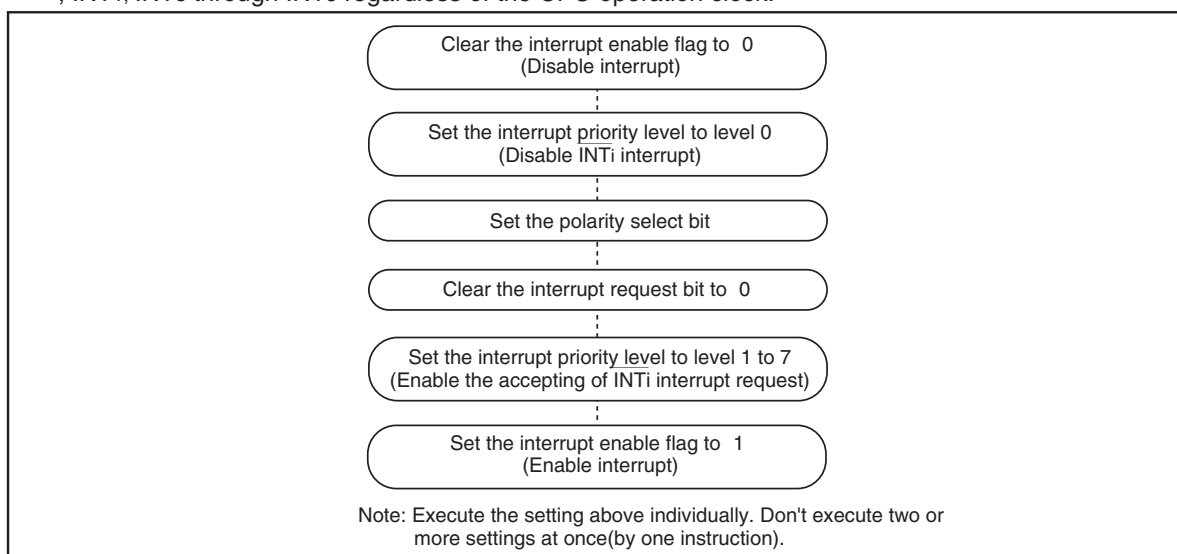

Figure 1.9.13. Switching condition of INT interrupt request
- When the polarity of the INT0, INT1, INT3 through INT5 pins is changed, the interrupt request bit is sometimes set to “1”. After changing the polarity, set the interrupt request bit to “0”. Figure 1.9.13 shows the procedure for changing the INT interrupt generate factor.